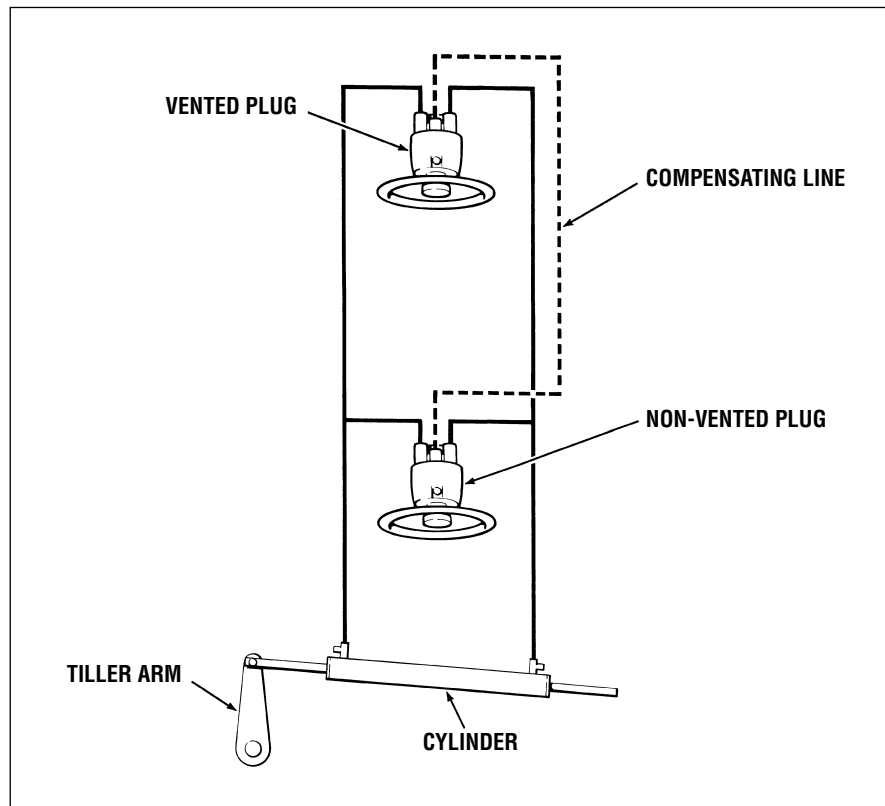

Figure 26. Dual Station.
1. Refer to figure 26 on page 22 for hose/tube to fitting connection.